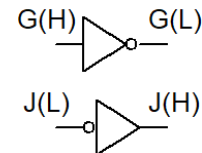

Figure 1: Use only four inputs. Create alternate activation-level inputs with level-shifters.
use the four inputs for **either** W or X and **create the other necessary inputs (with opposite activation-levels) using level-shifters** as shown in Figure 1. For example, using the signal names in Figure 1, you **cannot** have a switch for G(H) **and another** switch from G(L); you can have one switch for either G(H) **or** G(L), and you will get the other signal with a level shifter.
1. Make a new project and filename Lab1d. Design mixed-logic implementations of the equations for Y and Z in equations (4) and (5) below. The goal in this part is to choose input and output activation-levels to minimize the **total number of gates and chips** used in the overall design of these two circuits. Choose only one of the two possible activation-levels for each of the inputs, i.e., A(H), B(L), etc. [but not A(H) for one and A(L) for the other]. If you need both A(H) and A(L), that will cost one gate, a level-shifter or its equivalent, as shown in Figure 1. One last requirement is that Y and Z have **opposite** activation levels. Create the design by hand and then do it with Quartus in a single file. Do **not** simplify. (Hint: No more than **two chips and seven gates** are needed. Also, since you will **need to build this circuit** and you only have 74HC00 and 74HC02 chips available [and allowed], you should only the gates available on these chips.)